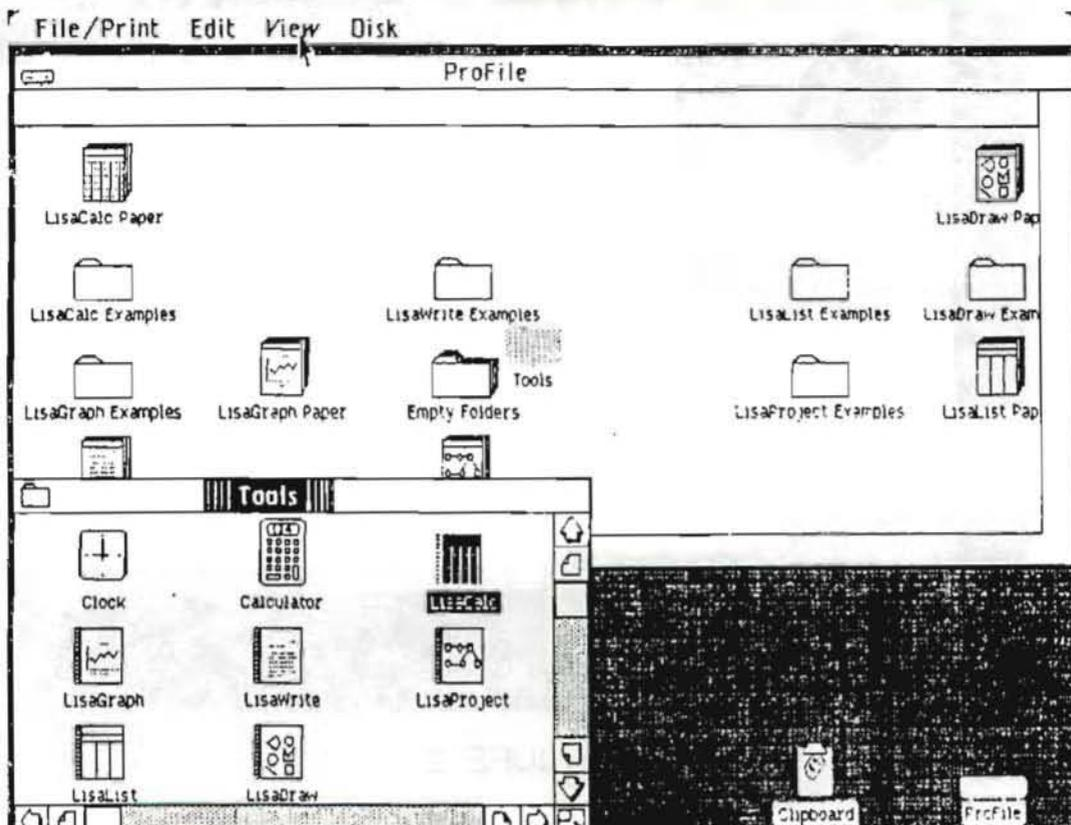

FIGURE 4
Each tool diskette puts three icons onto the ProFile: a **pad of paper** (e.g. "LisaCalc Paper"), a **file folder** of examples (e.g. "LisaCalc Examples"), and a **spiral notebook** (e.g. "LisaCalc"). (Find these items in Figure 4 to see what the different icons look like.) When you first open the ProFile window after installing the software, these icons will be stacked one on top of another, so that many will not be visible. They need to be unstacked and repositioned to match the diagrams in the user training materials. To do that, follow the steps below.
6. Open the new Tools folder (double-click), and use the mouse to give the Tool and ProFile windows the size and shape shown in Figure 4. Position them so that they overlap as little as possible.
7. The tool icons are the spiral pads labelled "LisaWrite," "LisaDraw," etc. You can identify them by the spiral along the left side of the icon. Use the mouse to move the tool icons, and the Clock and Calculator, from the ProFile window onto the Tool window, in the positions shown in Figure 4.
8. Make sure the Tools window is active (title should be white-on-black as in Figure 4; if not, click once anywhere on Tools window). Pull down the View menu and select "Straighten Up Icons". (If the icons rearrange themselves into more or fewer columns than you had planned, the window is too wide or too narrow: use the mouse to change its size. Then repeat steps 7 and 8.)